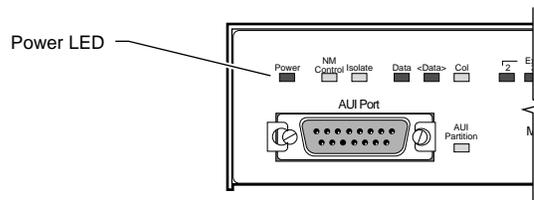

Figure 2-10. Power LED
5. Check the Power LED on the front panel (see Figure 2-10). If it does not light, contact the customer support department of the organization from which you purchased your Model 28xx.